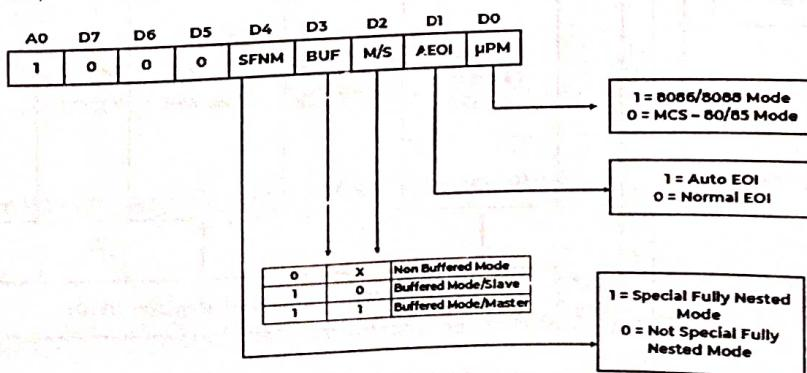

Figure 3.7: ICW4
2. The format of ICW4 is shown in Figure 3.7.